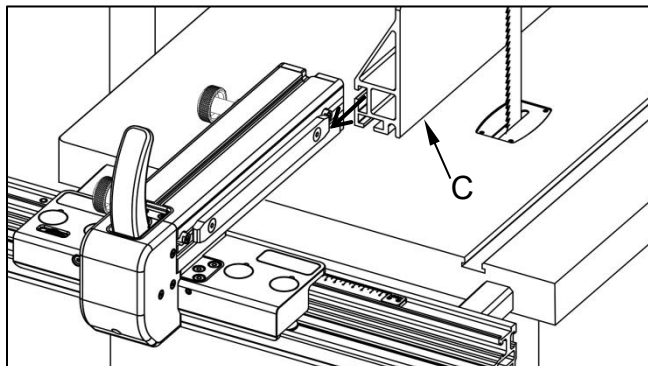

Fig. 20
As shown in Fig. 20, loosen both Fence Plate Locking Knobs and slide in the Fence Plate (C). Tighten both lock knobs once the plate is installed to secure it.